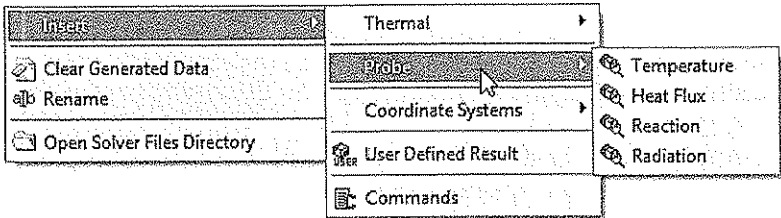

Figure 11-62 Selecting the **Probe** option from the shortcut menu
- 4. Right-click again on the **Solution** node in the Tree Outline and then choose **Insert > Probe > Temperature** from the shortcut menu displayed, refer to Figure 11-62; **Temperature Probe** with a question symbol is added under the **Solution** node. Also, the **Details of “Temperature Probe”** window is displayed.